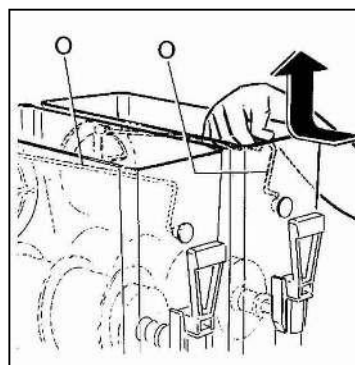

Fig. 10
- Pull out the upper mixing device (O) by pushing it slightly backwards, to remove it from its fixed position (see figure 10).